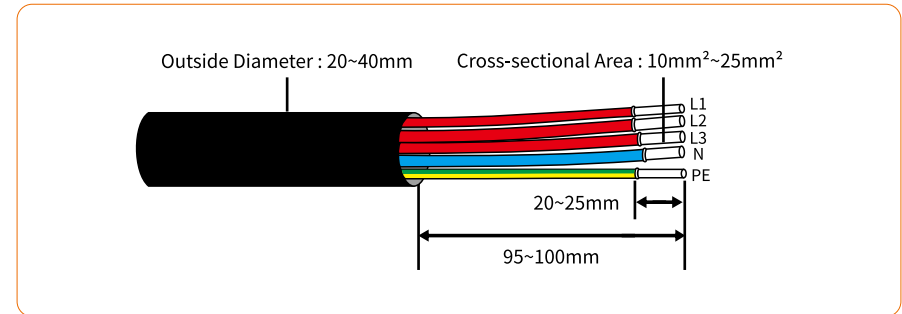

Figure 4-21
1) According to the table above, select an appropriate AC cable, peel off the insulation sleeve of AC cable for 95-100mm, and peel off the sleeve in the conductor core of 3L/PE/N wires for 20-25mm, as shown in Figure 4-21: